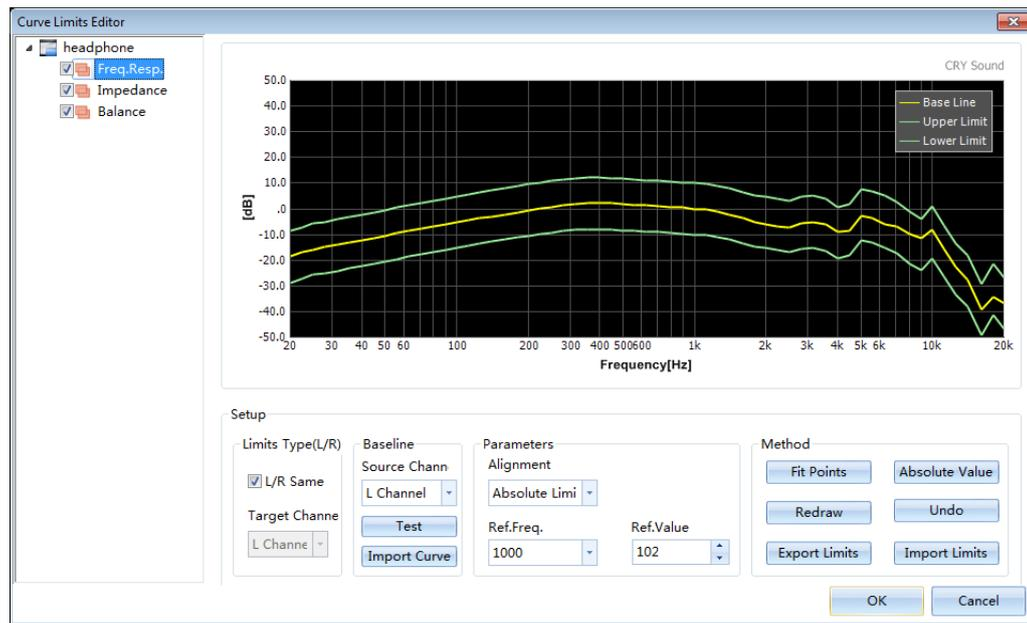
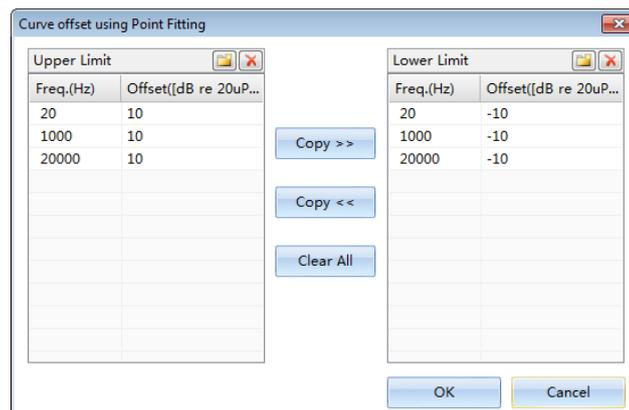

Figure 5.11 Frequency Response Curve Limits Setup
Figure 5.12 Curve Offset Using Fit Points
Secondly, “Setup” → “Curve Limits Editor” in the menu bar. The dialog box in Figure 5.11 pops up. Left click the column of frequency response. Meanwhile, it is necessary to tick the check box.
- (1) The yellow curve in Figure 5.11 is the measured data of software. If the curve needs to be measured again, please click “Test”, to obtain a benchmark curve.
- (2) Click “Fit Points” in Figure 5.11, set the curve limits options according to Figure 5.12. The offset is set to be 10 db. The data can be copied between left and right.